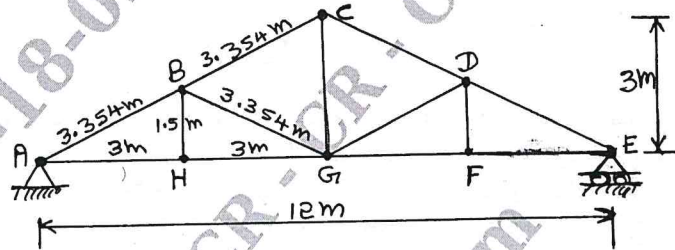

Fig.Q4
4. Design a bolted steel Howe truss having an effective span of 12.00m. The geometry of the truss is as shown in Fig.Q4. The forces induced in the members due to dead load, live load and wind load is tabulated in Table.Q4. Determine the design forces in the members due to various combination of loads as per IS – 800 provisions and hence design principal rafter, principal tie and main sling member with all the necessary safety checks including the reversal of stresses. Also design support joint 'A' by considering the size of supporting reinforced cement concrete column as  $300 \times 300\text{mm}$ , the design bearing pressure on the concrete is limited to  $2\text{N/mm}^2$  and the design bond stress between anchor bolt and concrete is limited to  $1.2\text{N/mm}^2$ . Use M16 ordinary black bolts of grade 4.6 for designing member and connection with gusset plate and M25 bolt as anchor bolt at supports. List the design details.